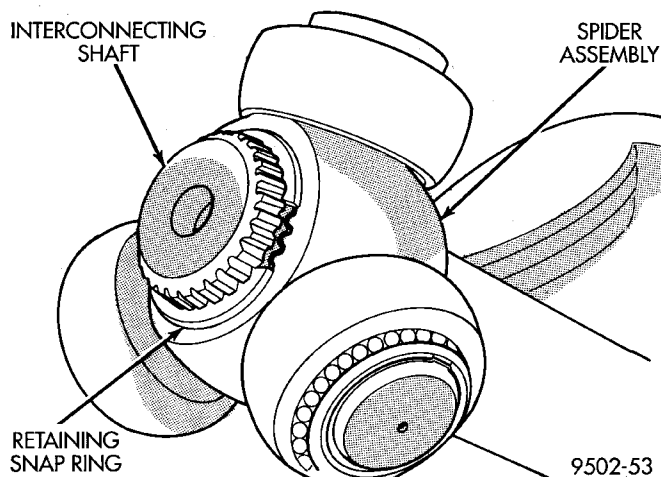

Fig. 33 Spider Assembly Retaining Snap Ring Installed
(3) Install the spider assembly to interconnecting shaft retaining snap ring into groove on end of interconnecting shaft (Fig. 33). Be sure the snap ring is fully seated into groove on interconnecting shaft.
(4) Distribute 1/2 the amount of grease provided in the seal boot service package (DO NOT USE ANY OTHER TYPE OF GREASE) into tripod housing. Put the remaining amount into the sealing boot.